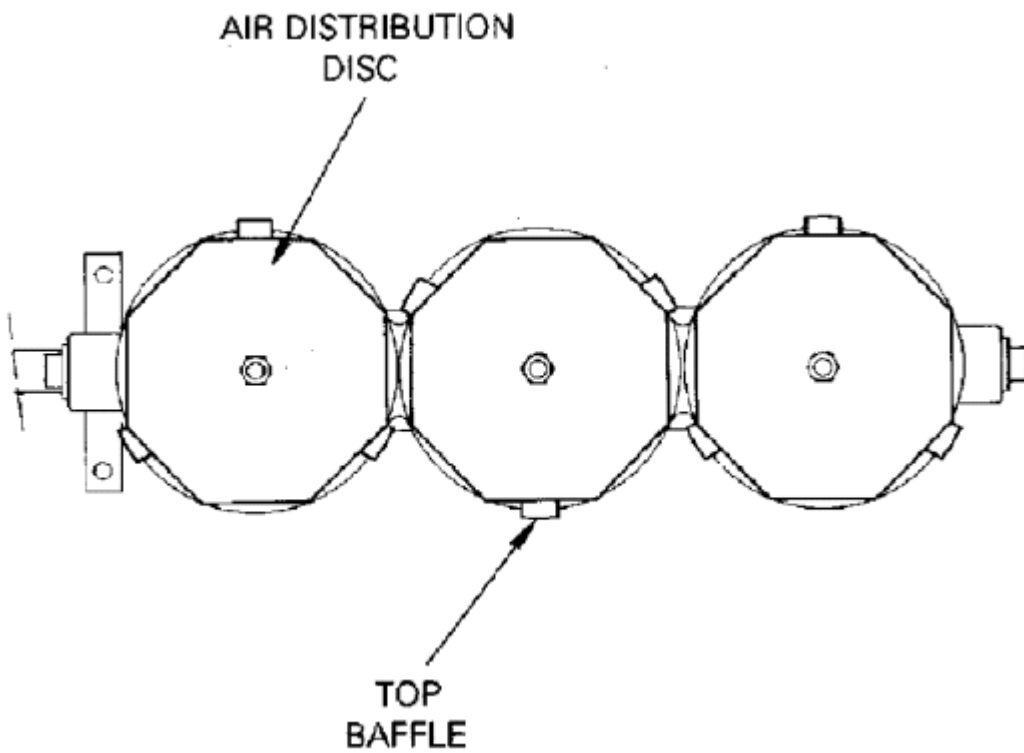

Fig.10 DESN 510919
9. Fit the burner shells on to the burner base and locate check that the joint between the oil burner base and shells, is near airtight, otherwise, unacceptable air gaps may cause "burner light-back", with ignited fuel occurring below the oil burner base. Remove the shells, place wicks in oil burner wick line up with oil feed channel in the burner base (Fig.10), and fit stainless steel stay rods into burner base. Refit burner shells ensuring correct fit and location. (The burner shell with the lighting port must be fitted at the front facing forward (Fig. 9). Place the baffles on top of shells and fit air distribution disks on top of them, making sure the orientation of both baffles and disk are as shown in Fig. 10. When orientations is correct fasten assembly down using nut and washers. Do not over tighten.